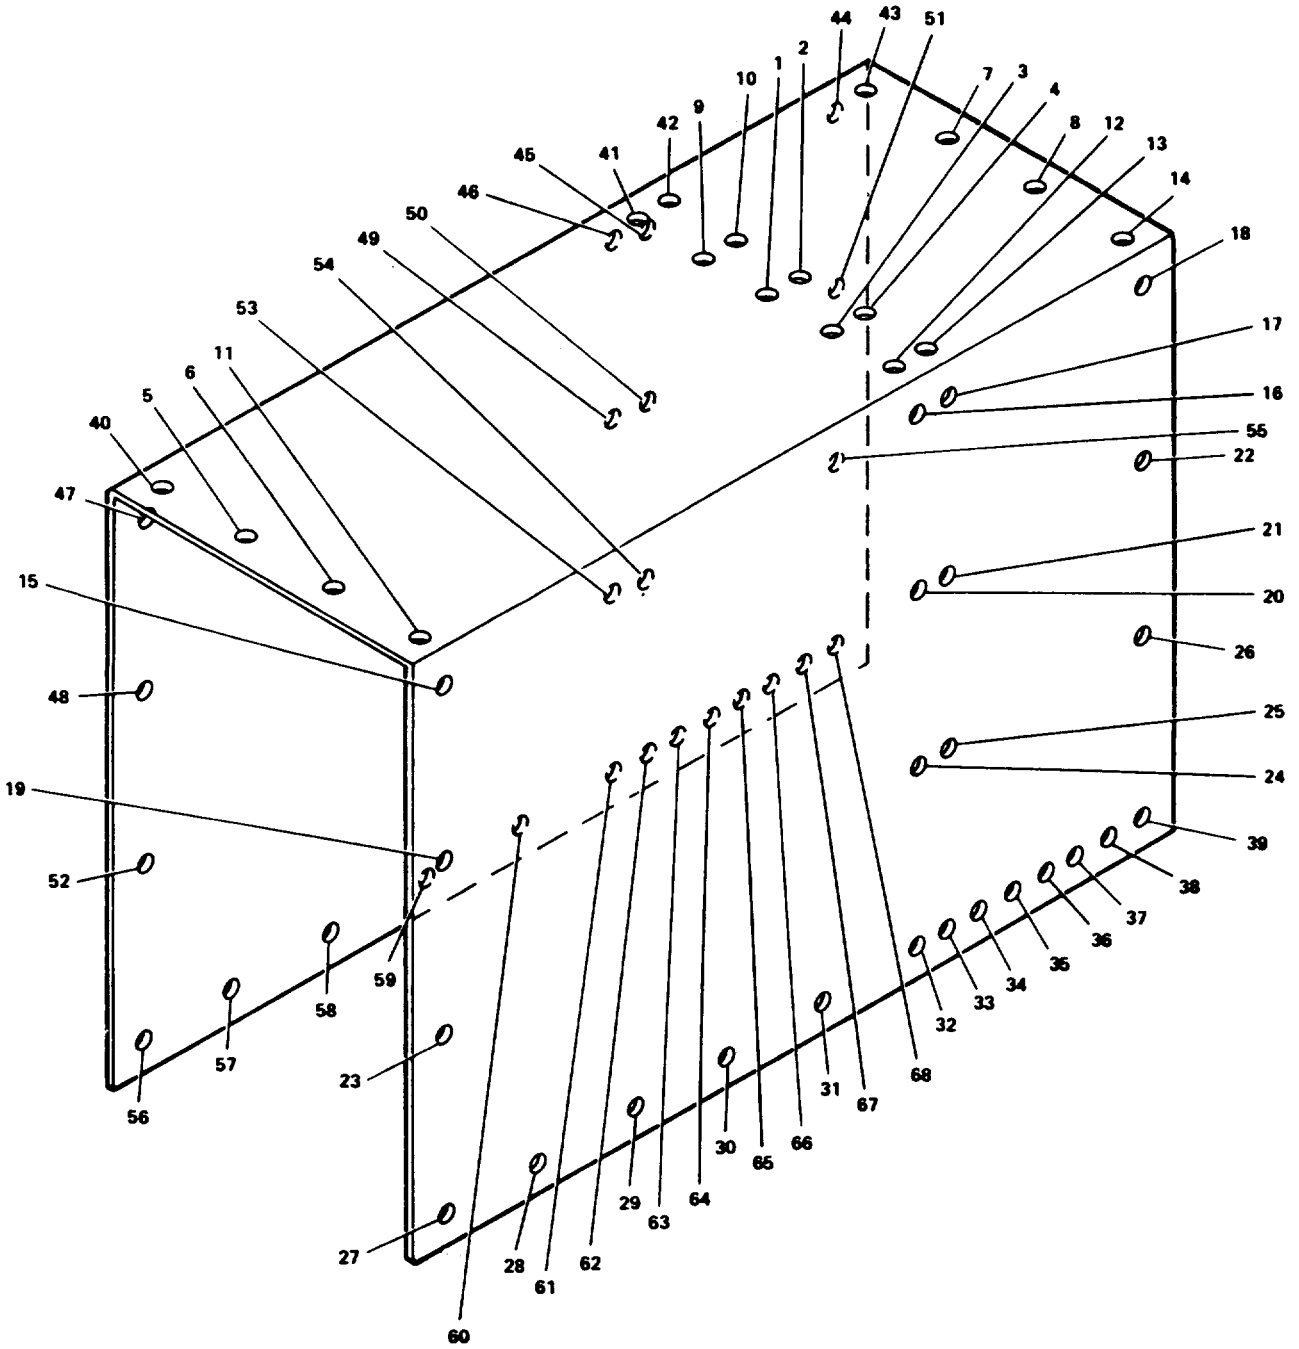

Figure 5-7. Tunable Coupler Cover Replacement
- a. Place cover (3) on chassis.
- b. Replace and tighten screws (1) and flat washers (2) in sequence shown in figure 5-7.